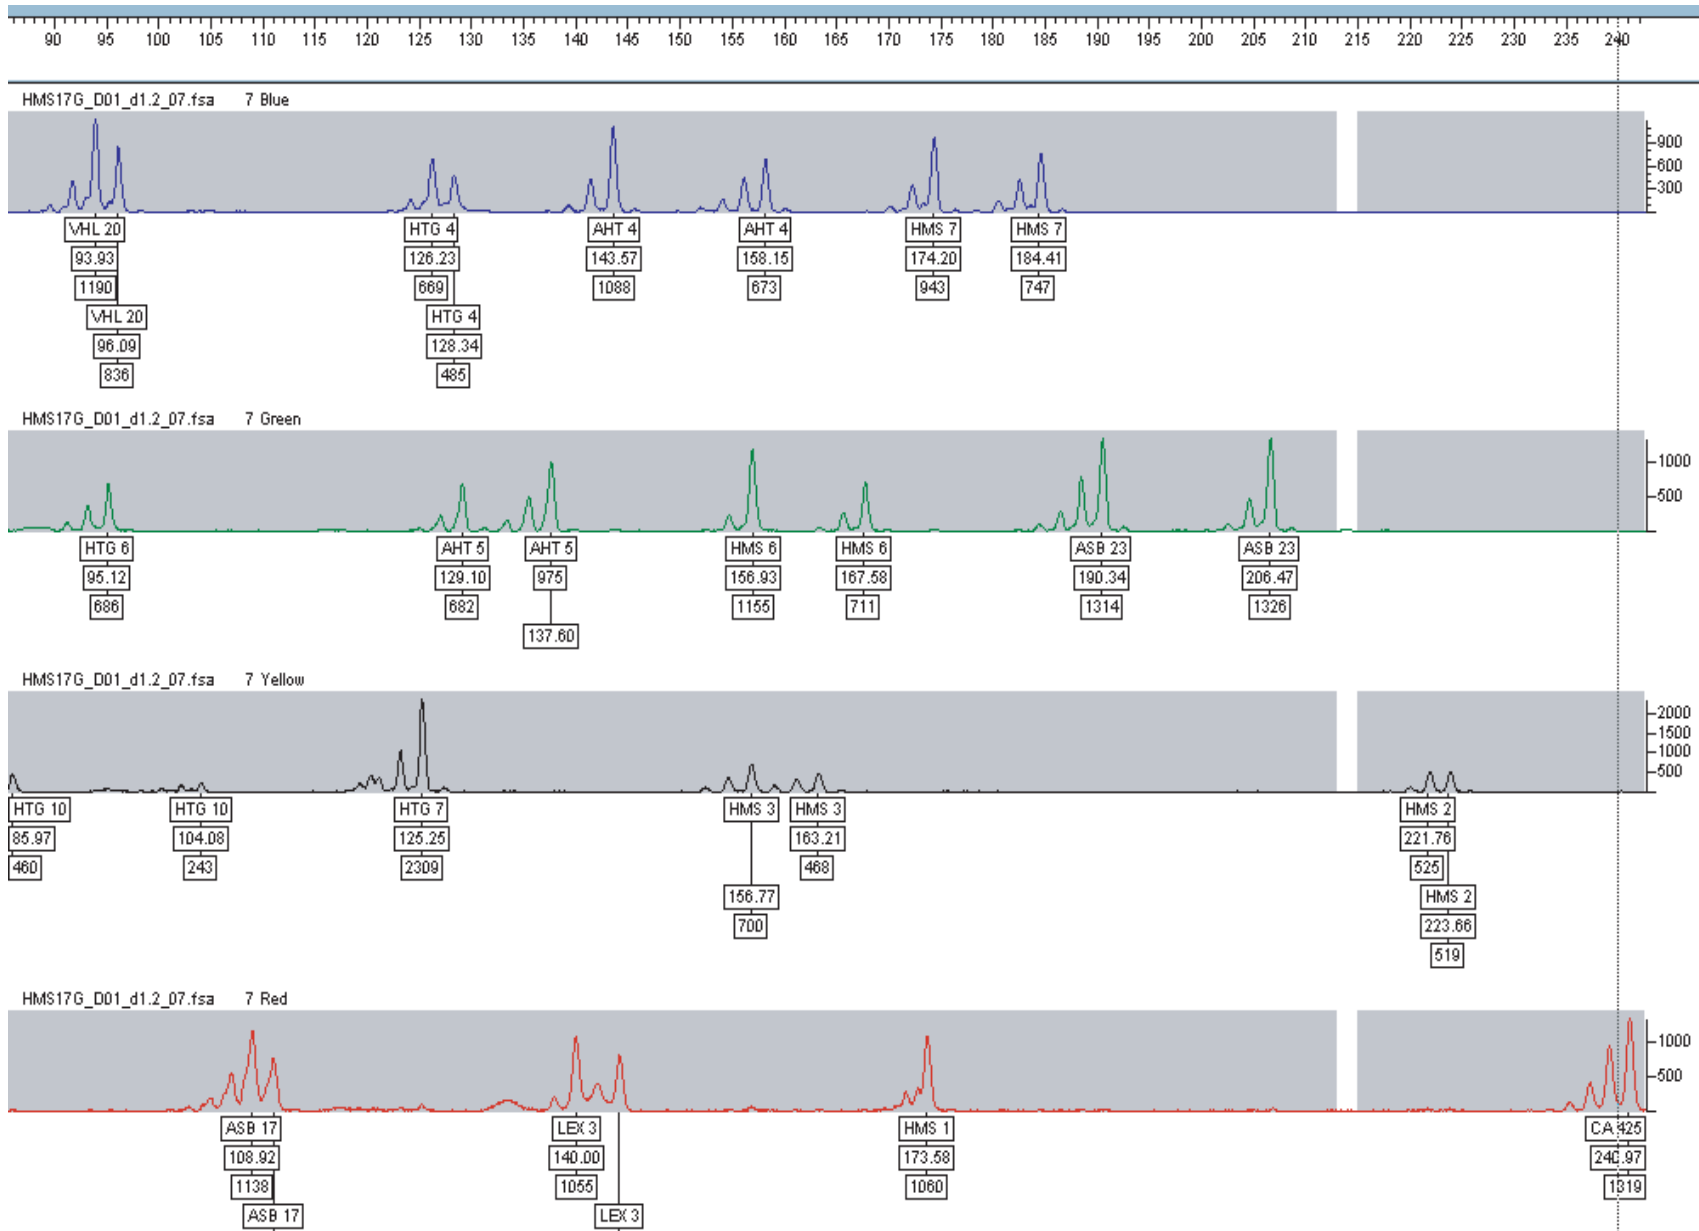

Figure 1 GenTyper™ software analysis of PCR amplification products using equine control DNA separated on the Applied Biosystems® 3100 Genetic Analyzer
Amplification of the 17 equine-specific loci using the equine control DNA as the sample should provide results similar to those illustrated in Figures 1, 2, and 3. These figures show Genotyper™ software plots of GeneScan™ software results when equine control DNA is separated on an:
- Applied Biosystems® 3100 Genetic Analyzer (Figure 1 on page 23)